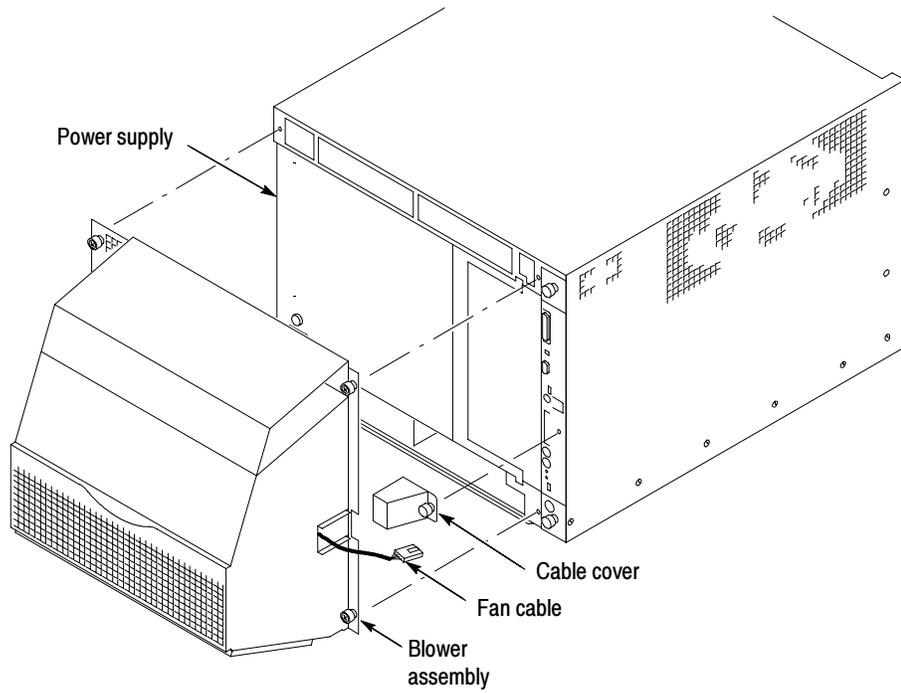

Figure 10: Removing the blower assembly
1. Refer to Figure 10 and unscrew the captive screw that attaches the cable cover. Remove the cable cover and set it aside.